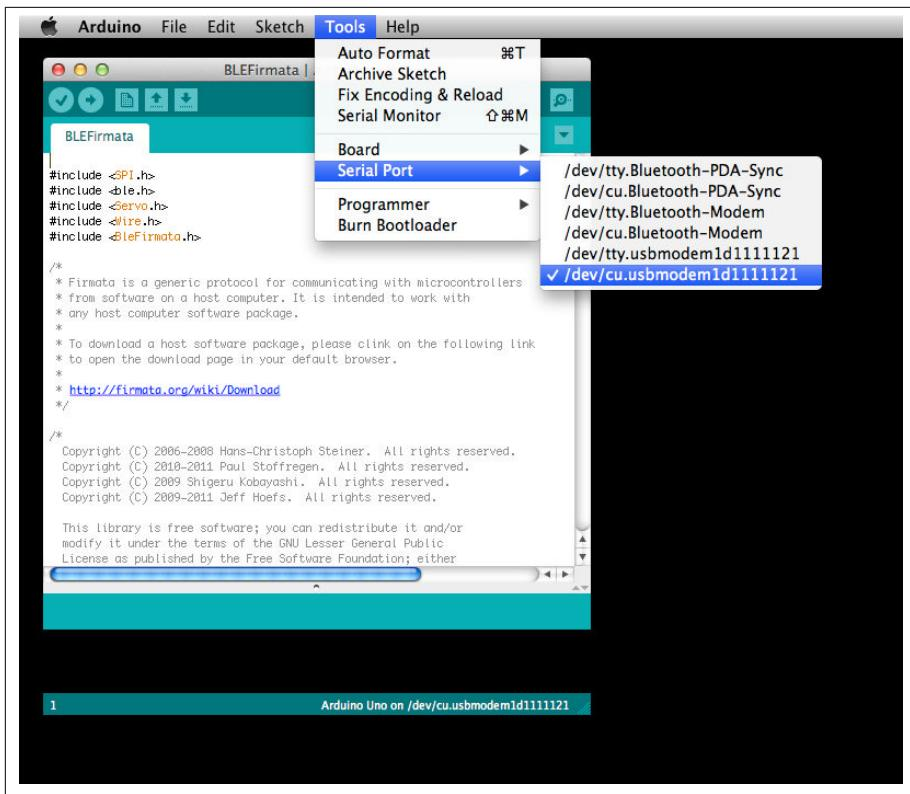

Figure 8-25. Select the proper serial port
8. Check the Serial Port in the Tools→Serial Port menu. Make sure it corresponds to the Arduino. If you are not sure which serial port belongs to the Arduino, unplug it, check the menu, then plug it back in and check the menu again. Select the serial port that appears only when the Arduino is plugged in, picking the one that starts with *cu*, as shown in Figure 8-25.